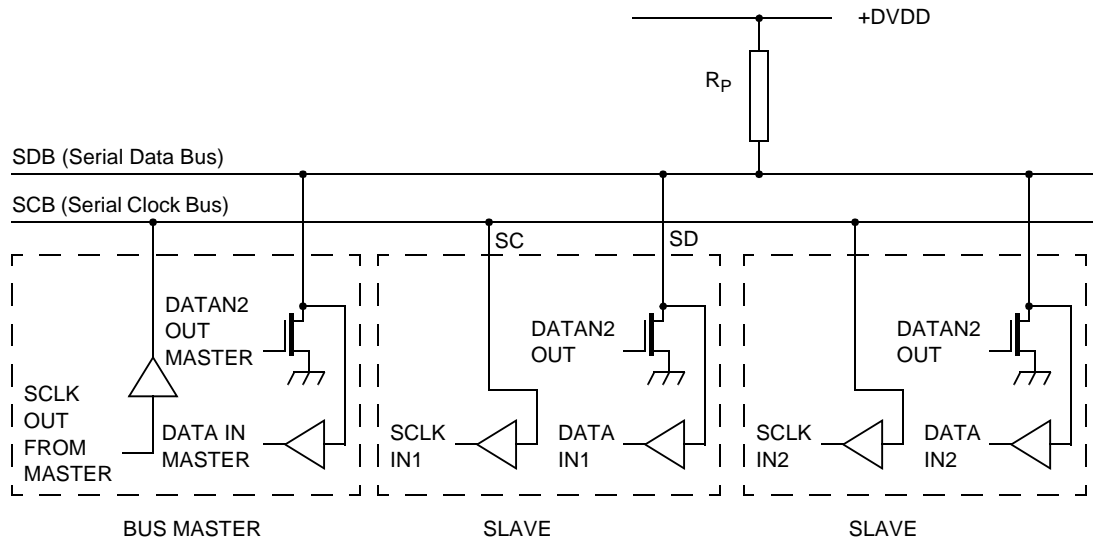

Figure 17: Connection of Devices to the Bus
The CH7008 contains a standard I²C control port, through which the control registers can be written and read. This port is comprised of a two-wire serial interface, pins SD (bidirectional) and SC, which can be connected directly to the SDB and SCB buses as shown in **Figure 17**.
The Serial Clock line (SC) is input only and is driven by the output buffer of the master device (also shown in **Figure 17**). The CH7008 acts as a slave, and generation of clock signals on the bus is always the responsibility of the master device. When the bus is free, both lines are HIGH. The output stages of devices connected to the bus must have an open-drain or open-collector to perform the wired-AND function. Data on the bus can be transferred up to 400 kbit/s.
The electrical specifications of the bus devices' inputs and outputs and the characteristics of the bus lines connected to them are shown in **Figure 17**. A pull-up resistor (R_p) must be connected to a $3.3V \pm 10\%$ supply. The CH7008 is a device with input levels related to DVDD.